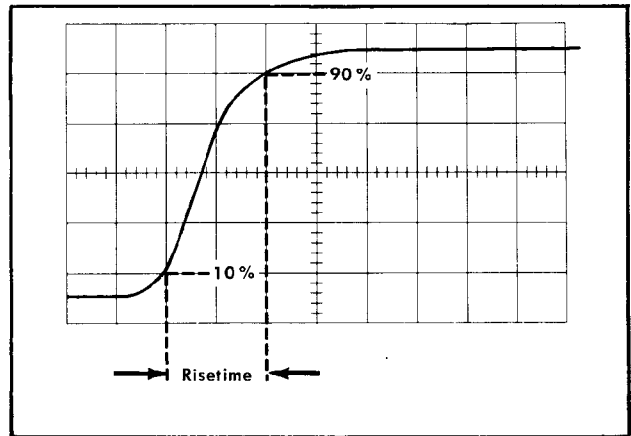

Fig. 2-5. Risetime measurement on a typical waveform.
4. Measure the time duration between these points (see Fig. 2-5). This is the combined risetime of the Type 106 and the oscilloscope ( $T_{rt}$ ).